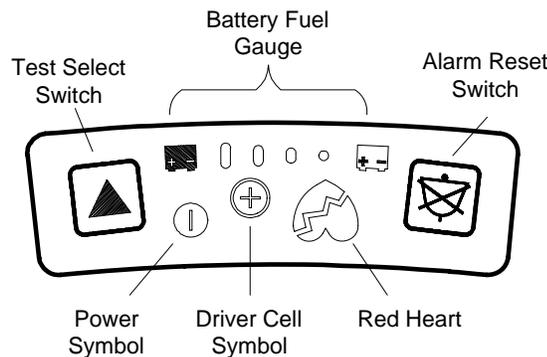
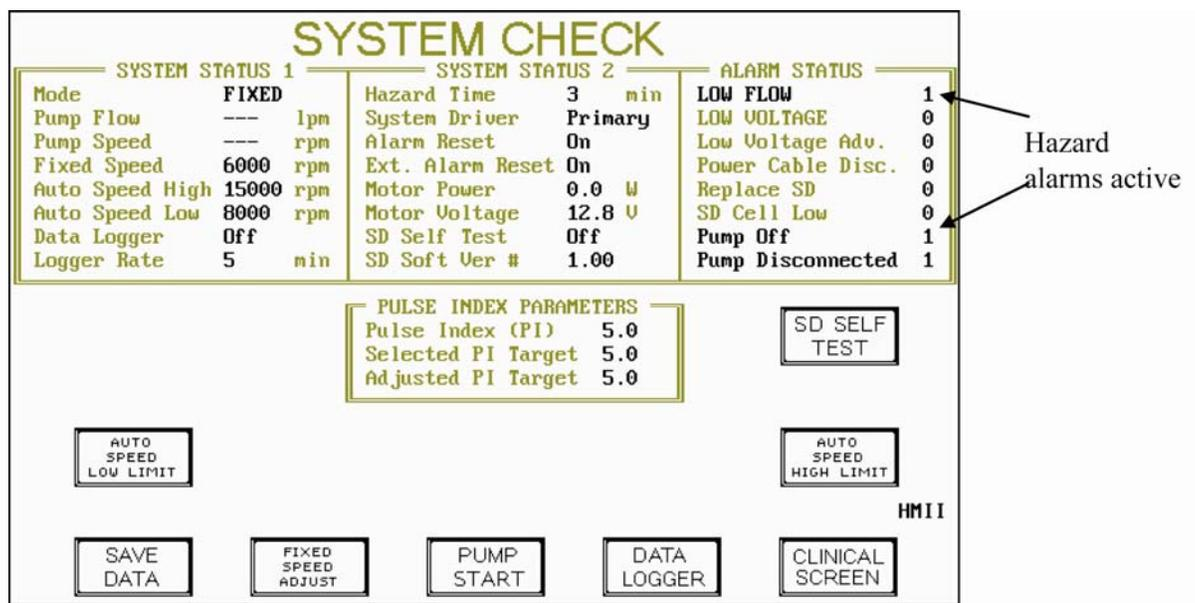

Figure 4: HeartMate II System Controller User Interface Panel
Figure 6: System Monitor System Check Screen - detecting a hazard alarm condition
- 2 Pass the 2 System Controller cable ends out of the sterile field and connect them to the bifurcated ends of the PBU Cable, white-to-white, and black-to-black. Both the PBU and the System Controller will indicate a Hazard Alarm condition (signifying that the System Controller is powered but not connected to the HeartMate II LVAD). Reset these alarms with the Alarm Reset Switch (Figure 4) on the System Controller's user interface panel. This will silence the alarms for 2 minutes.
- 5 **Turning off Alarms:** Depress the “Extended Alarm Reset” button in the System Check screen (Figure 6) to ensure that the alarms will not be sounded in the OR. The extended 4 hour alarm reset can be canceled by depressing the “Alarm Reset” button on the System Controller’s user interface panel (Figure 4). Switch back to the Clinical screen by depressing the “Clinical Screen” button in the System Check screen.